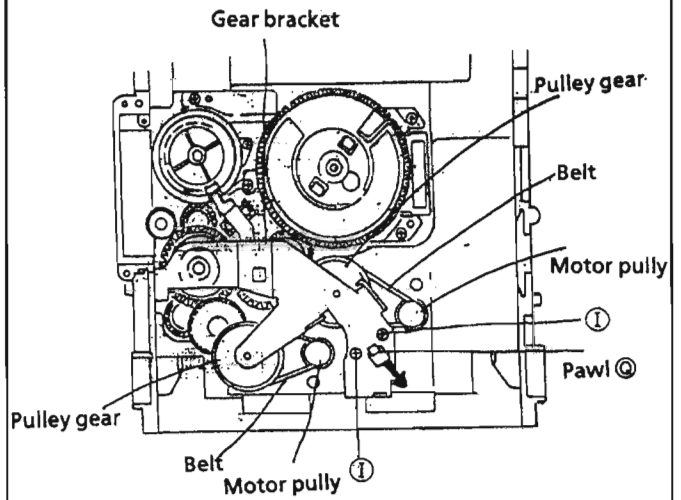

Fig. 2-18
(See Fig. 2-18.)
2. Press the pawl ② securing the gear bracket to the arrow in the figure to remove the gear bracket. (See Fig. 2-18.)
4. Remove each belts from the both actuator motor pulleys and the pulley gears. (See Fig. 2-18.)